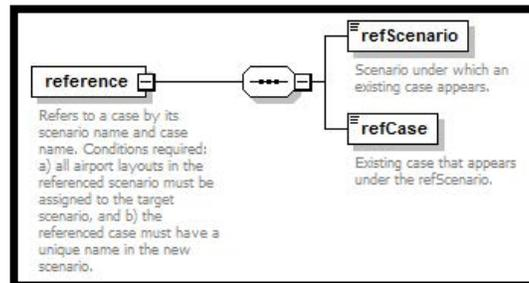

Figure 55. reference -> case and scenario
8. AsifXml/study/scenario/case/reference (Figure 55):